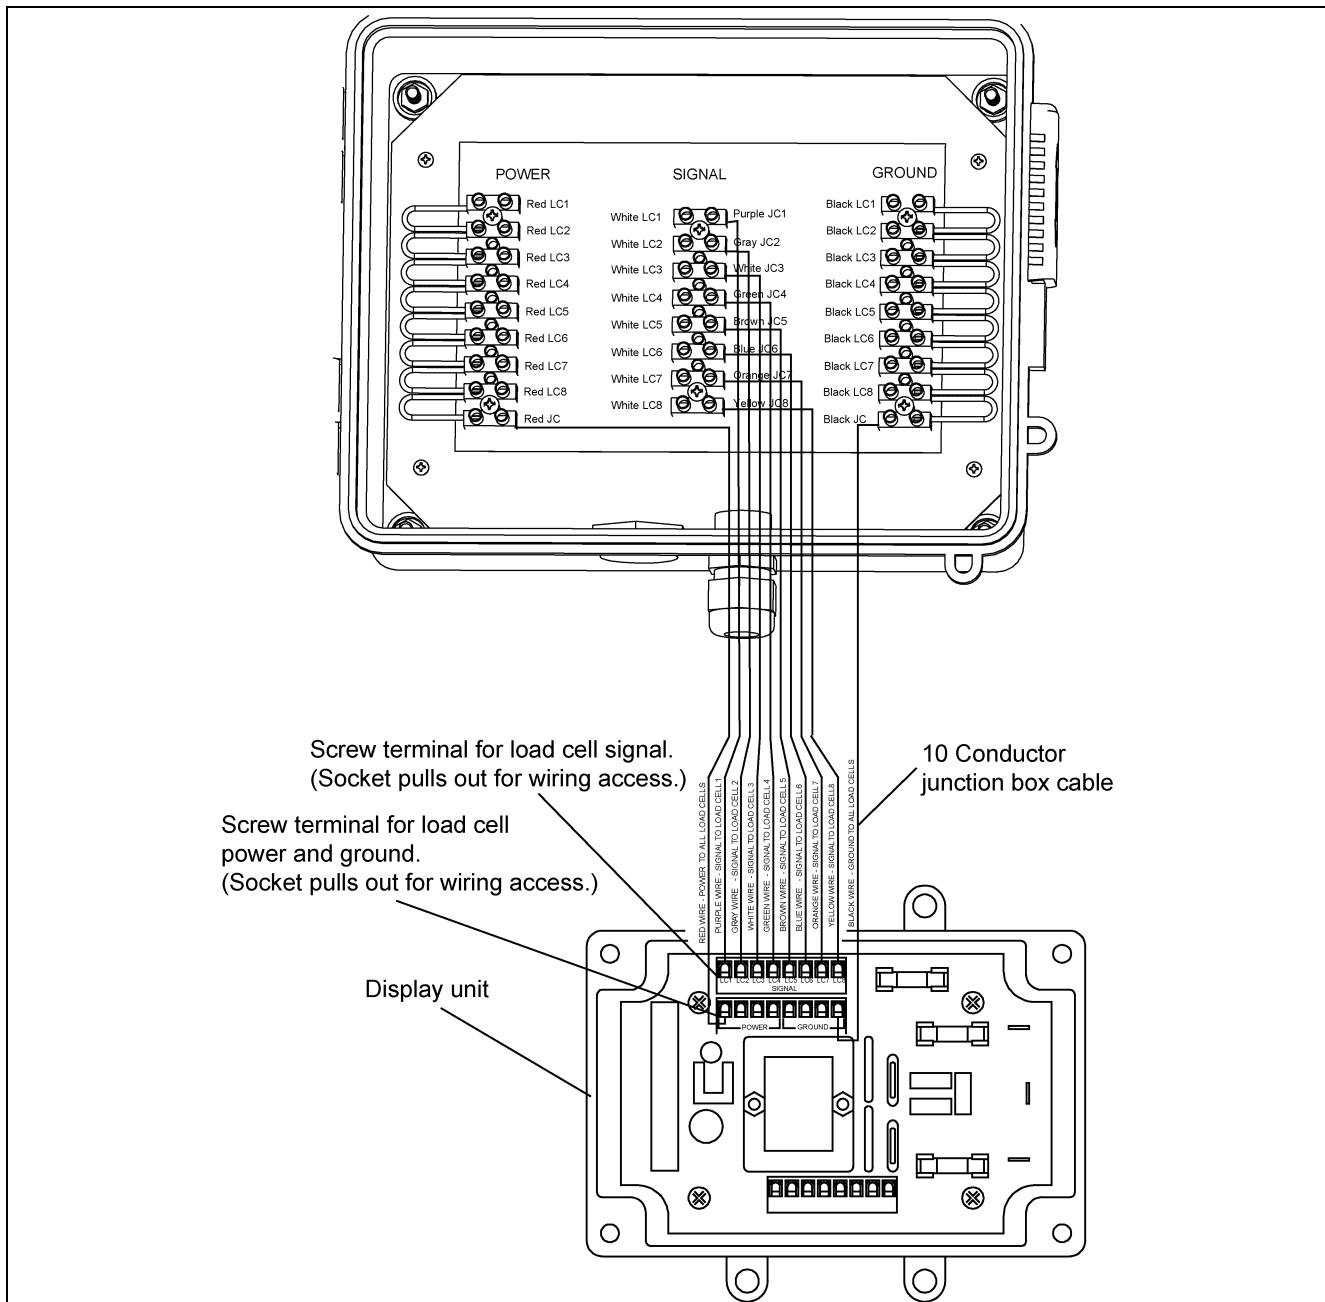

Figure 6C
1. Remove both terminals and insert the wires from the junction cable to the corresponding load cell terminals in the display box. Insert the Black wire (ground) and Red wire (power) into the bottom terminal as shown in Figure 6C. Tighten lugs and replace terminals onto board. (See Figure 6C.)